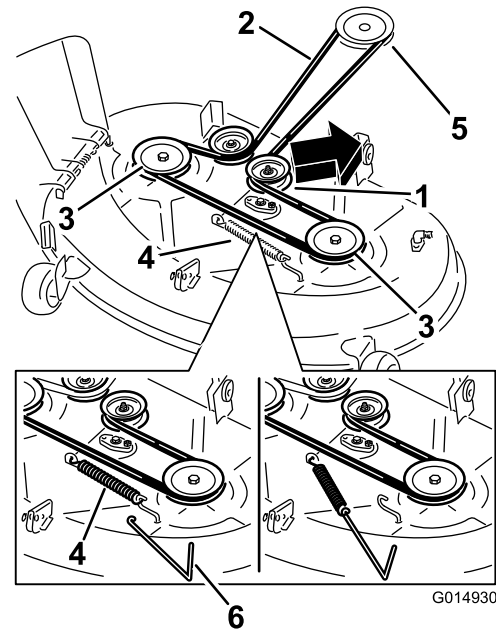
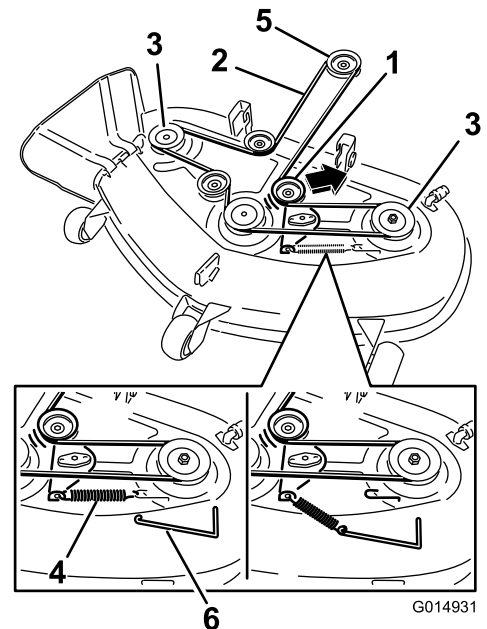

Figure 66
Figure 67
4. Using a spring removal tool, (Toro part no. 92-5771), remove the idler spring from the deck hook to remove tension on the idler pulley and roll the belt off of the pulleys (Figure 66 and Figure 67).
5. Route the new belt around the engine pulley and mower pulleys (Figure 67).
- Using a spring removal tool, (Toro part no. 92-5771), install the idler spring over the deck hook and placing tension on the idler pulley and mower belt ((Figure 66 and Figure 67)).